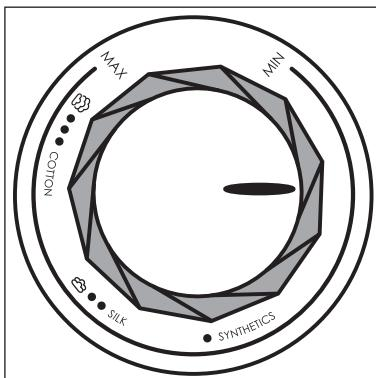

Fig. 2
- Dry ironing without steam is possible at all temperatures. Steam ironing is only possible from the setting ● ● on the temperature control ⑥.
- 3) Select the appropriate temperature setting using the temperature control ⑥ (see table below and fig. 2).